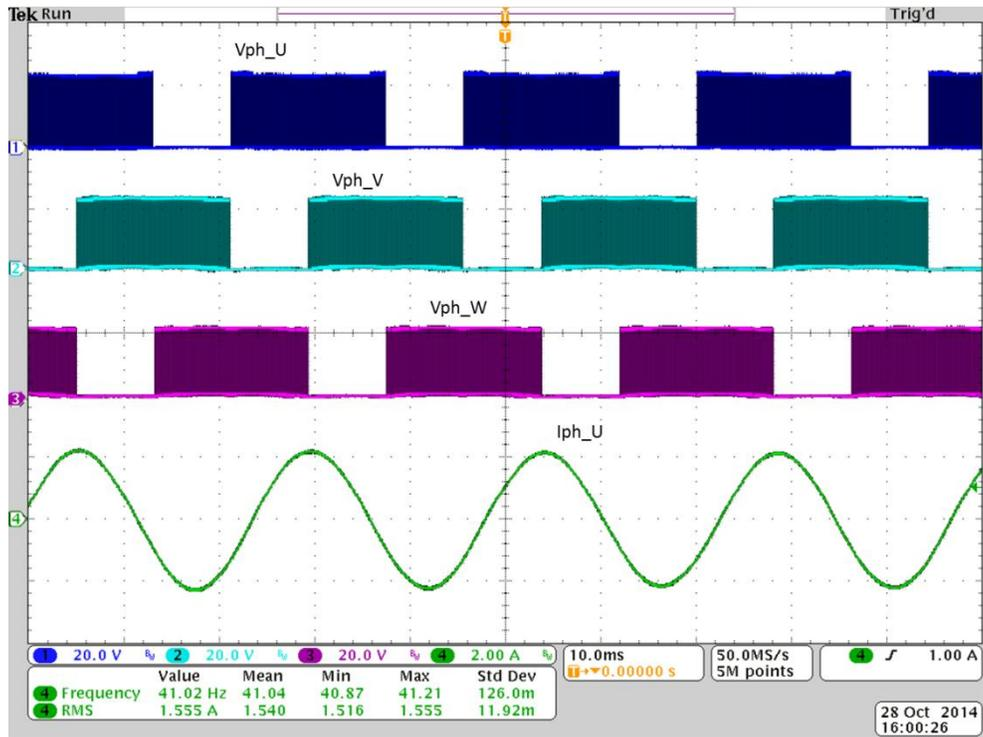
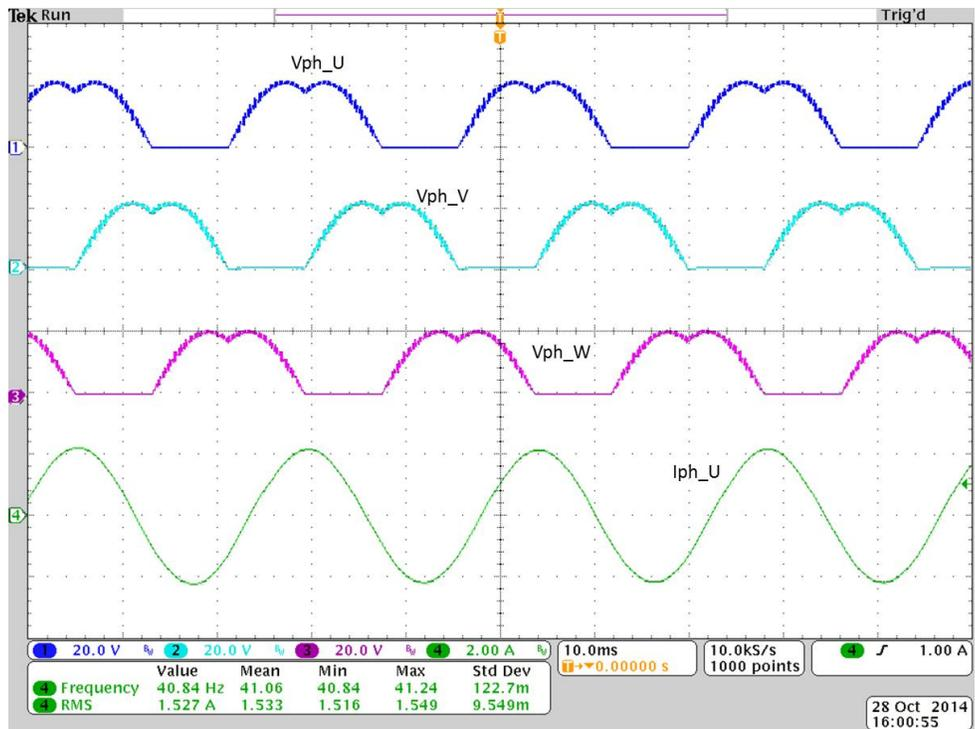

Figure5: Motor phase voltages & current at 310 rpm1
Figure6: Filtered Motor phase voltages & current at 310 rpm
2. **Motor phase voltage and current waveforms:** Figure 5 and 6 shows the three-phase voltages applied voltages with respect to GND and current flowing through one phase of motor at full speed, 310 rpm. Figure 5 shows the actual PWM voltages waveform applied to motor whereas figure 6 shows the filtered voltage waveforms. Figure 6 demonstrate sinusoidal PWM with third-harmonic addition, as explained in DRV10983 data-sheet. The third harmonic content in phase to ground voltage get cancelled across phase to phase voltage and produce sinusoidal current in motor phase, as evident in both figure 5 and 6.